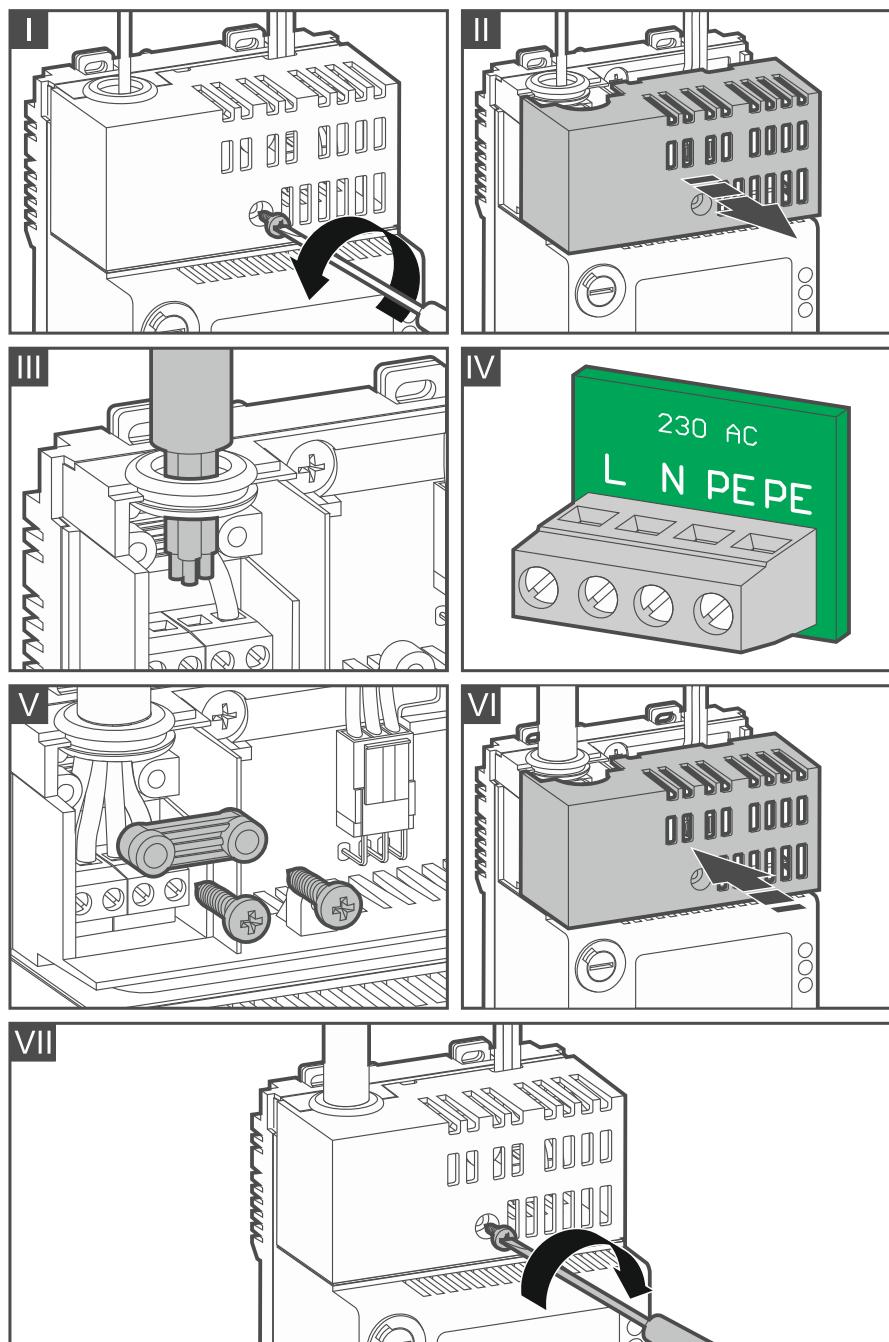

Fig. 18. Mounting the power supply.
1. Remove the screw fixing the cover of power supply terminals (Fig. 18-I).
2. Remove the cover of power supply terminals (Fig. 18-II).
3. Run the cable through the cable entry (Fig. 18-III).
5. Screw the wire fastening element (Fig. 18-V).
6. Replace the cover of power supply terminals (Fig. 18-VI).
7. Fix the cover of power supply terminals with a screw (Fig. 18-VII).